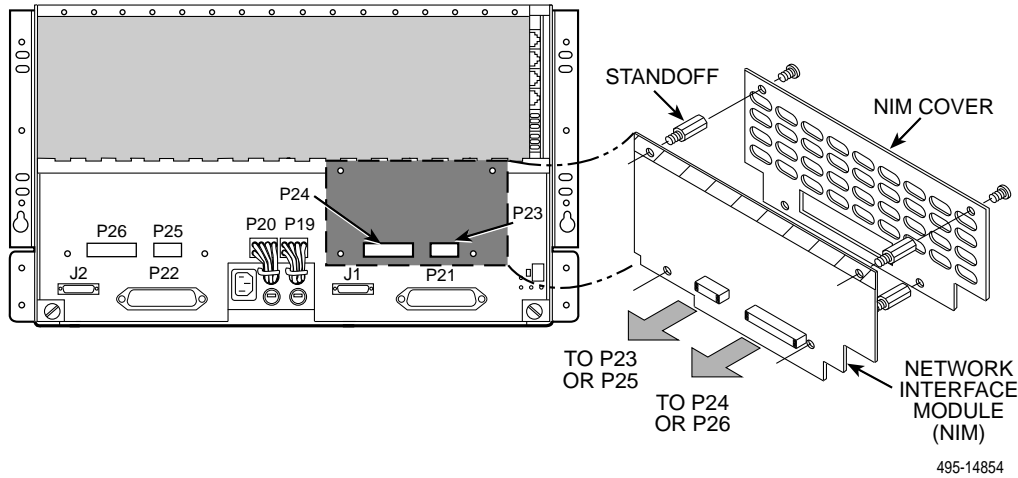

Figure 2-1. Installing the NIM
2. Fasten the NIM to the carrier with the four standoffs provided. See Figure 2-1.
4. Fasten the NIM cover in place with the four screws provided. See Figure 2-1.